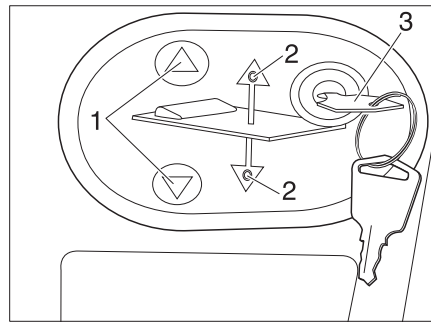

Fig. 158 Operating panel for electrical pull-down bed
- Insert the key (Fig. 158,3) into the operating panel.
- Press the  (Fig. 158,1) button and keep it pressed. The corresponding LED (Fig. 158,2) will light up and the pull-down bed will lower into the middle position and remain there.
- Press the  (Fig. 158,1) button and keep it pressed. The respective LED (Fig. 158,2) lights up and the pull-down bed moves down as far as it will go.